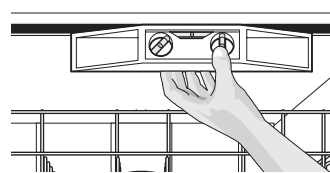

Figure 9a
6. Check that dishwasher is level from side to side by placing a level against the top front section of the tub. See Figure 9a.